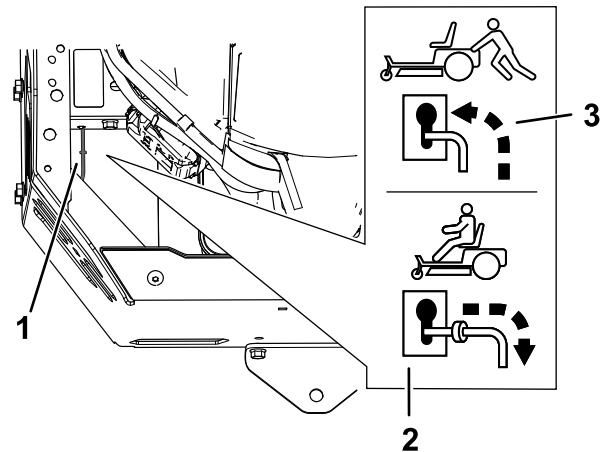

Figure 30
4. Move the bypass levers forward through the key hole and down to lock them in place (Figure 30).